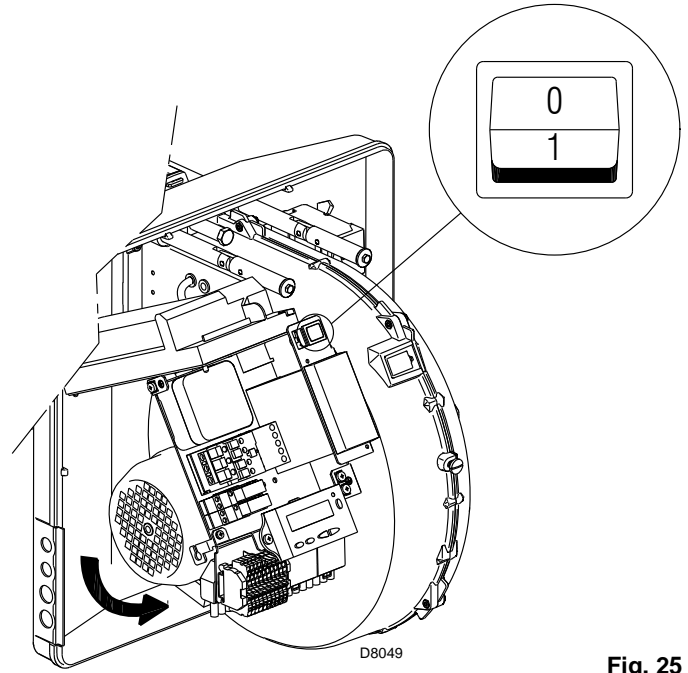

Fig. 25
Close the thermostats/pressure switches and turn the switch of Fig. 25 to position "1".
The burner is in the request for heat waiting mode, or the switch “1-0” of Fig. 25 is at the “0” position.
**With the switch “1-0” in Fig. 25 the burner does not stop immediately, but the switch-off phase is activated.**